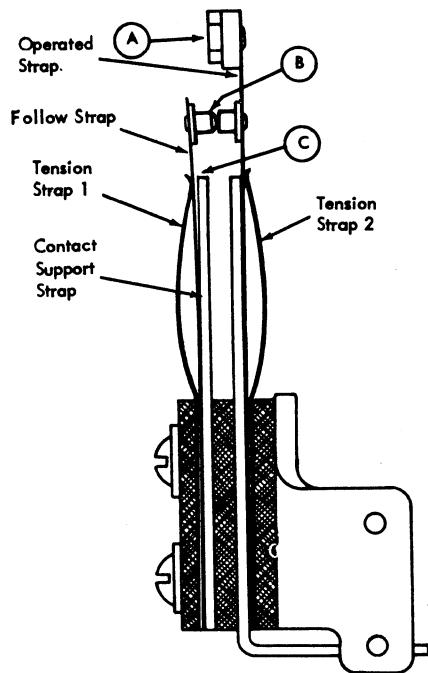

Figure 58. Verifying Contact
point B, Figure 58) lifts the follow strap from its support at C.
3. Form tension strap 2 so that a force of 40 grams +5-0 grams (applied at point A, Figure 58) will just open contact.